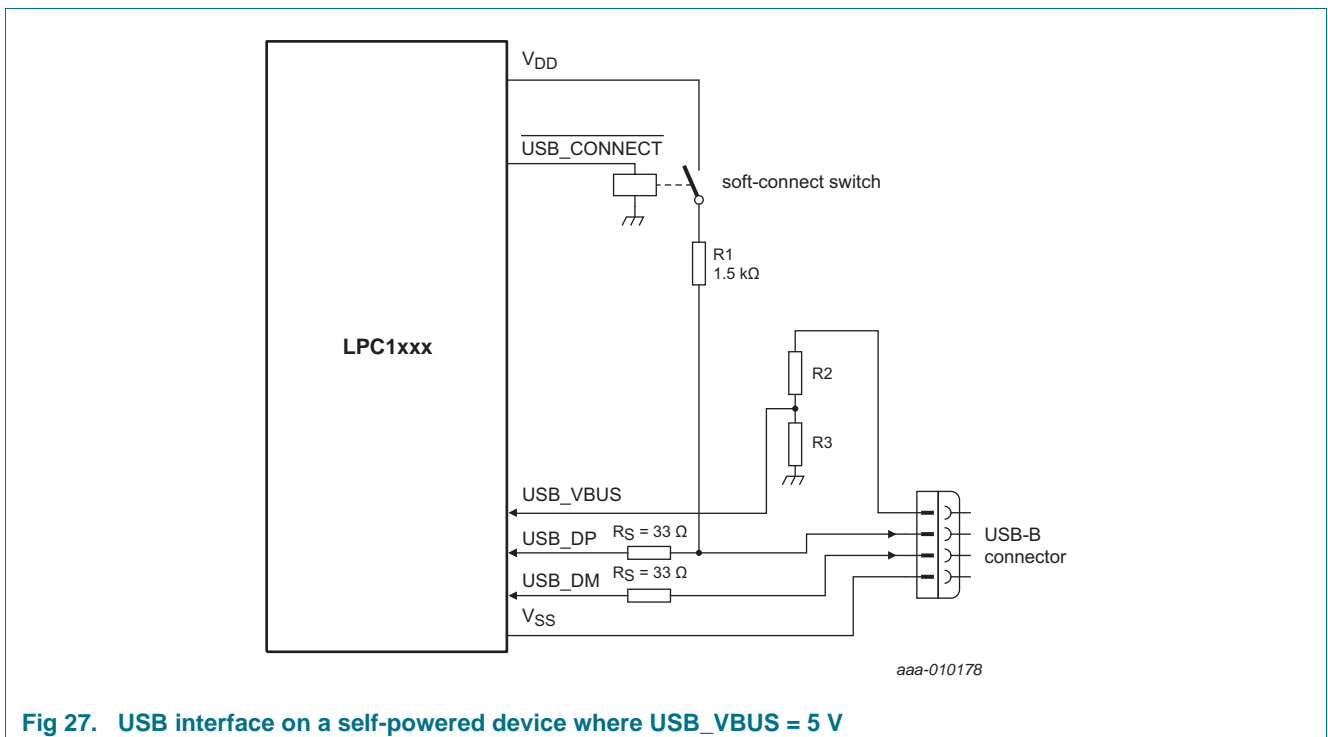
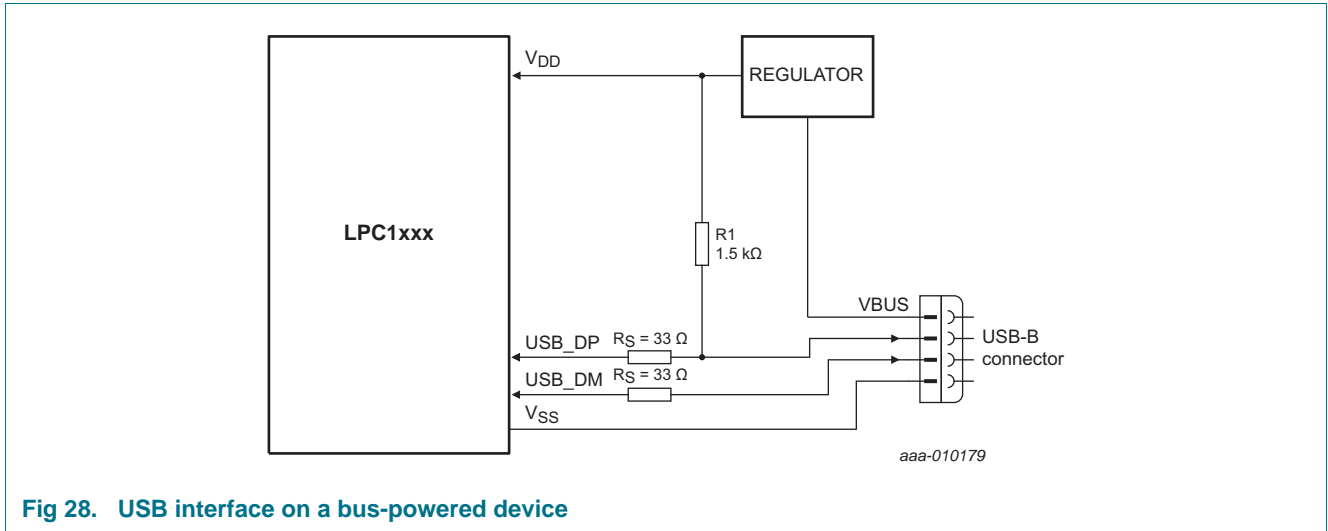

Fig 27. USB interface on a self-powered device where  $USB\_VBUS = 5 \text{ V}$
Fig 28. USB interface on a bus-powered device
The USB device can be connected to the USB as self-powered device (see Figure 27) or bus-powered device (see Figure 28).
For a bus-powered device, the VBUS signal does not need to be connected to the USB\_VBUS pin (see Figure 28). The USB\_CONNECT function can additionally be connected as shown in Figure 27 to prevent the USB from timing out when there is a significant delay between power-up and handling USB traffic.
**Remark:** When a bus-powered circuit as shown in Figure 28 is used, configure the PIO0\_3/USB\_VBUS pin for GPIO (PIO0\_3) in the IOCON block to ensure that the USB\_CONNECT signal can still be controlled by software. For details on the soft-connect feature, see the LPC11U3x user manual (Ref. 1).